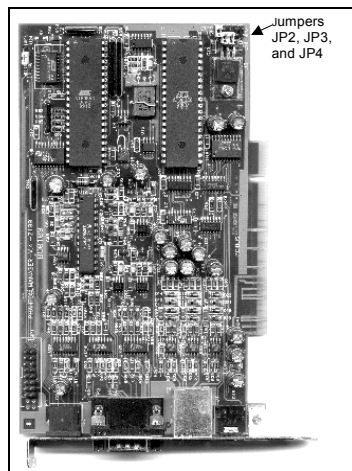
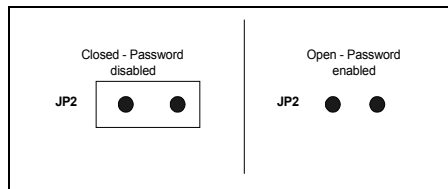
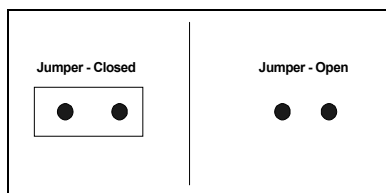

Figure 7-1 The Manager card
Figure 7-2 Jumper JP2
Figure 7-6 Jumper closed and open
3. Locate Jumper **JP2** and open it. See Figure 7-1 and Figure 7-2.
4. Locate Jumper **JP2** and open it. See Figure 7-1 and Figure 7-2 above.
3. Locate Jumper **JP4** and close it. See Figure 7-1 on page 7-2 above, and Figure 7-6 below.
4. Locate Jumper **JP4** and close it. See Figure 7-1 on page 7-2 above, and Figure 7-6 above.